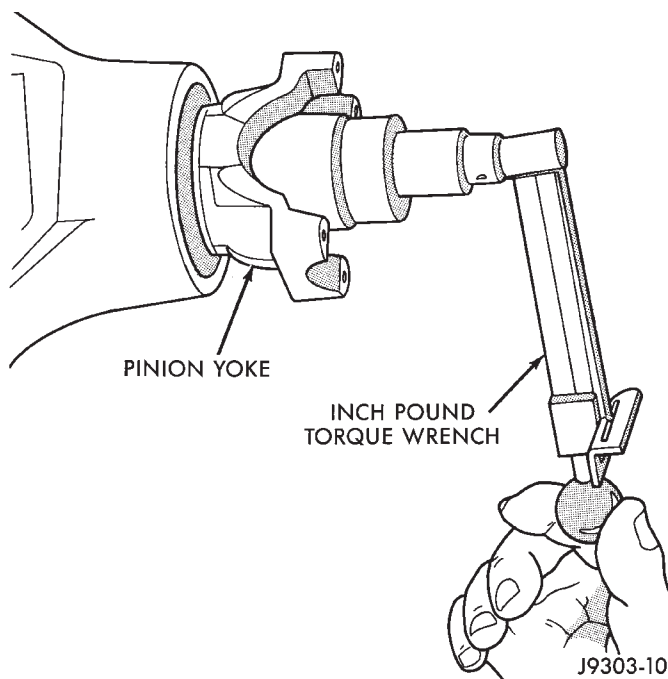

Fig. 37 Check Pinion Gear Rotation Torque
(10) Check bearing preload torque with an inch pound torque wrench (Fig. 37). The torque necessary to rotate the pinion gear should be: